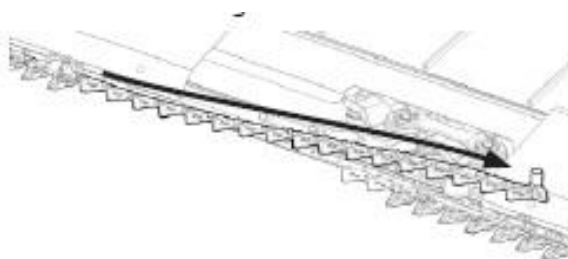

Figure 124
5. Wearing protective gloves, lift and pull knife head out from guards. Figure 124